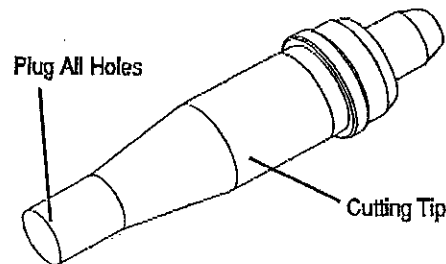

Figure 3: Plugged Cutting Tip for Leak Testing
- Plugged Cutting Tip (see Figure 3)
8. Remove the torch from the water and drain excess water from the torch. Install the plugged cutting tip (see Figure 3.) into the torch head. Tighten the tip nut to 15 - 20 ft./lbs. of torque.